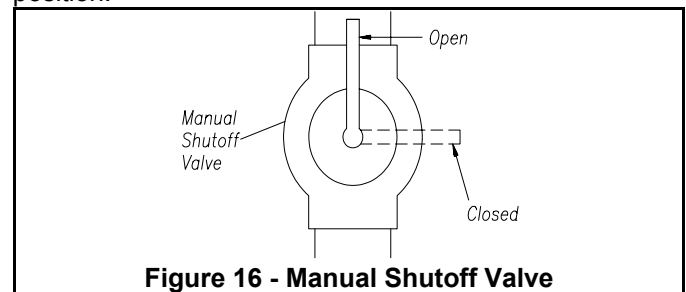

Figure 16 - Manual Shutoff Valve
1. Close manual shutoff valve (see Figure 16)
1. Open manual shutoff valve (see figure 16).